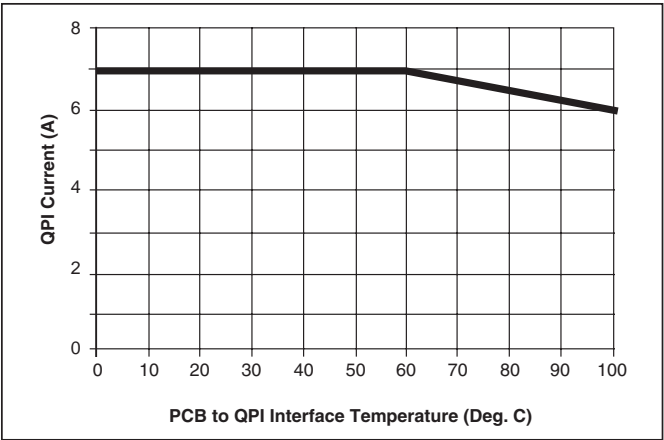
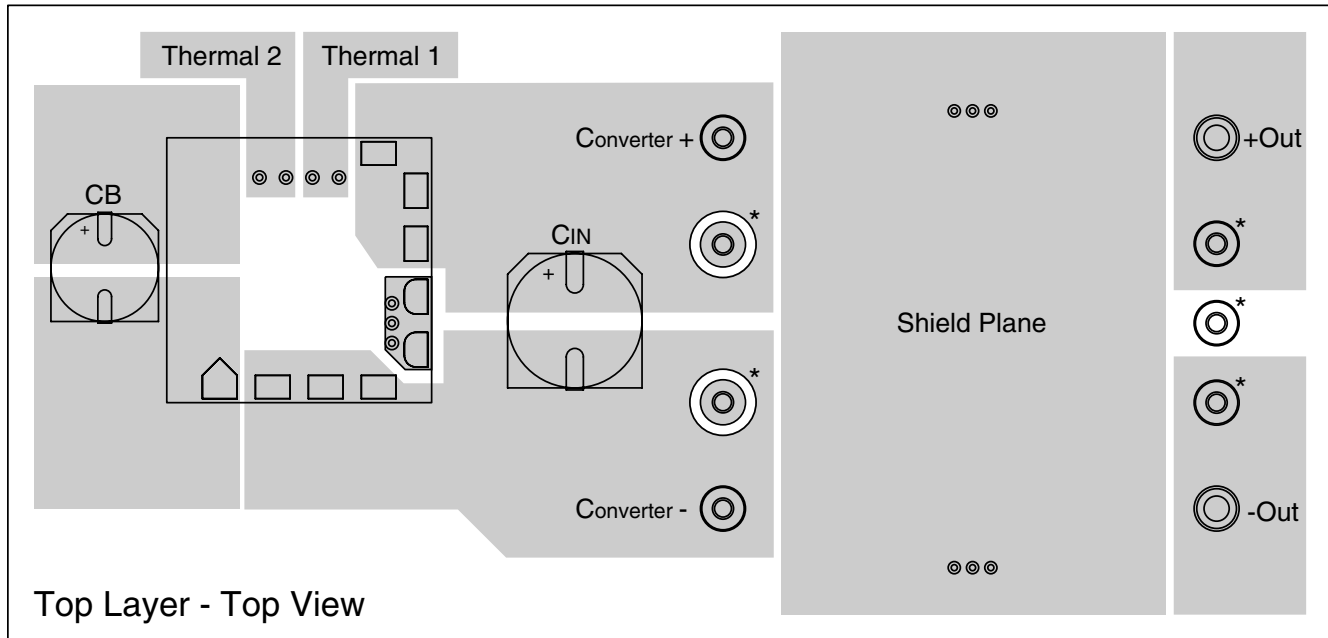

Figure 5 – QPI-3 current derating curve.
Figure 9 – Recommended layout for top layer of PCB. Pattern shows optional pins (*) dependent on converter used in design.
- -40° to +100°C PCB temperature (See Fig. 5)
Note 1 - Refer to Figures 9 & 10 for PCB layout guidelines to achieve this thermal resistance when re-flowed onto the PCB.
Note 2 - Refer to Figure 5 for current derating curve.
Application of the QPI-3 requires PCB layout practices similar to those used with passive EMI filters. The circuit in *Figure 6* and the PCB layout in *Figures 9 & 10* should be used as a design guide to ensure successful application of the QPI-3. Refer to the application note QPI- AN1 for additional PCB layout recommendations.
The current derating curve shown in *Figure 5* should be used when the PCB temperature in close proximity of the QPI-3 exceeds 60°C. For example, the QPI-3 will support up to 6.5 A of current or 156 W from a 24 Vdc bus at an 80°C interface temperature. Temperature should be measured at the PCB interface to the QPI-3 on the Bus +/- pads or the QPI+/- pads. Refer to *Figures 9, 10 & 12* for PCB layout recommendation.
Figure 12 –Recommended PCB layout pattern. Use 1.3mm clearance around shield pads 5 & 6 to adjacent lands. See Figures 9 & 10 for recommended connection layouts.